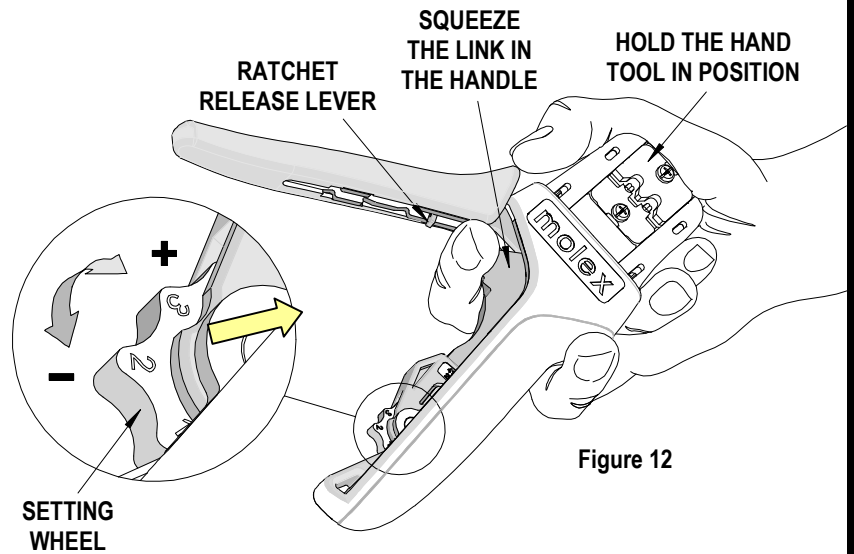

Figure 12
**How to Adjust Tool Preload (See Figure 12)**
1. Hold the hand tool in the palm of your hand as shown in Figure 12. Using the index finger squeeze the link towards the top of the hand tool frame. This will release the preload adjustment wheel.
2. Rotate the setting wheel counter-clockwise (CCW) to increase handle force. The numbers will display higher. To decrease handle force rotate the setting wheel clockwise (CW).